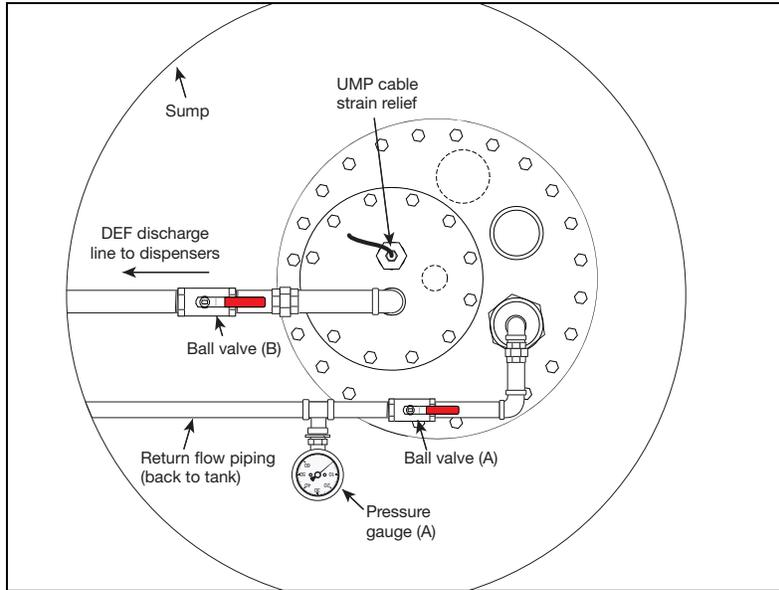
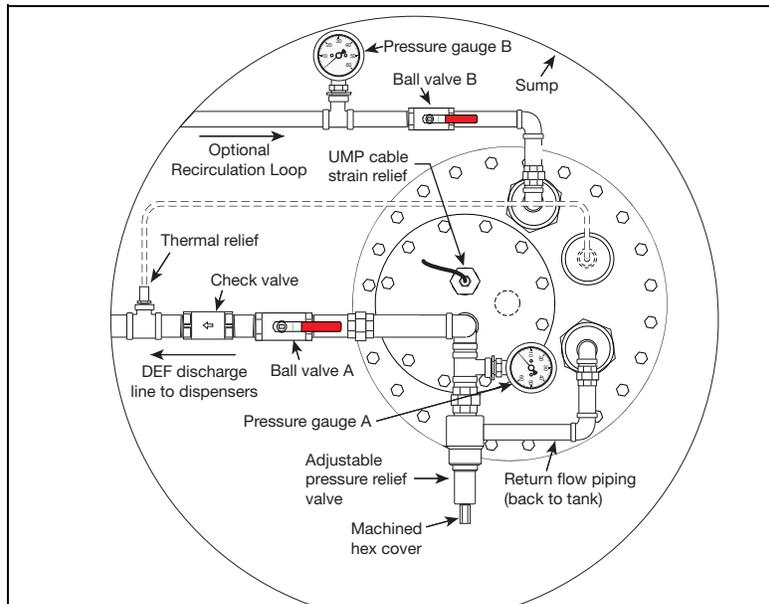

Figure 3. DEF Recirculating Piping With Fixed Pressure Relief Example Installation
Figure 4. DEF Recirculating Piping With Adjustable Pressure Relief Example Installation
To maintain proper pressure drop, you must set the DEF recirculation return line ball valve to approximately 1-2 psi below dead head pressure. Reference Figure 3 or Figure 4 depending on your DEF installation.
6. Figure 3 and Figure 4 show typical DEF recirculation return line fittings in the DEF pump sump.